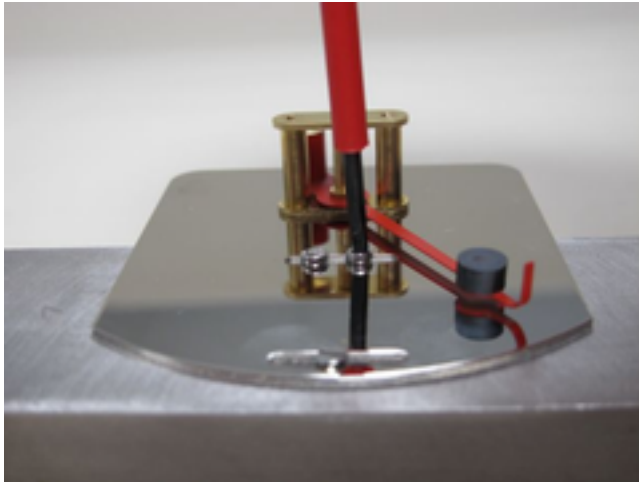

Fig. 65: Secure the base plate
- 13.** Set the display base plate on the device body and lightly tighten the mounting screws, so that the base plate can still be moved (*Fig. 65*). Make sure that the countersunk head screw is used for the long groove (pointer tip end) and the two (2) cylinder head screws are used for the base center